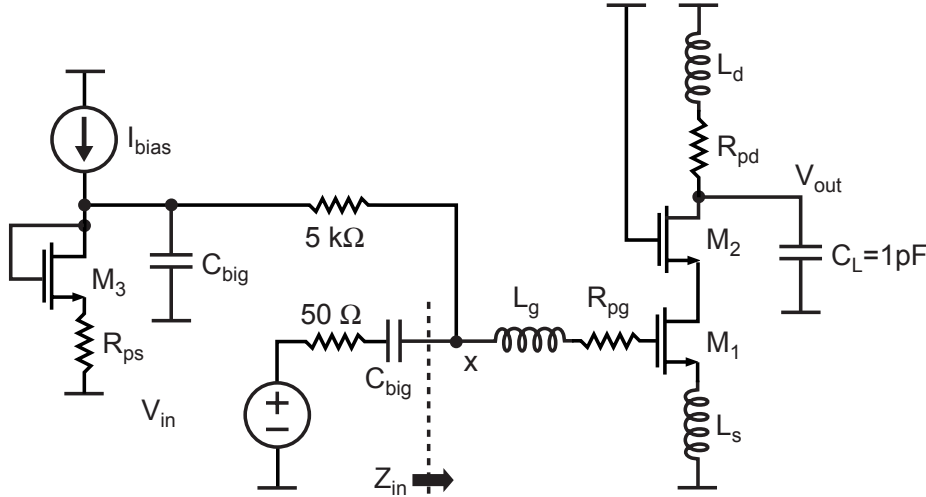

Figure 1: Narrowband LNA.
1. This problem will focus on design of the LNA shown in Figure 1. In the figure,  $L_{deg}$  ( $L_s$ ) is assumed to have infinite  $Q$ , but inductors  $L_g$  and  $L_d$  have associated resistances due to their finite  $Q$  (i.e., the values of  $R_{pg}$  and  $R_{pd}$  are set by the  $Q$  and inductance value of  $L_g$  and  $L_d$ , respectively). Assume the following